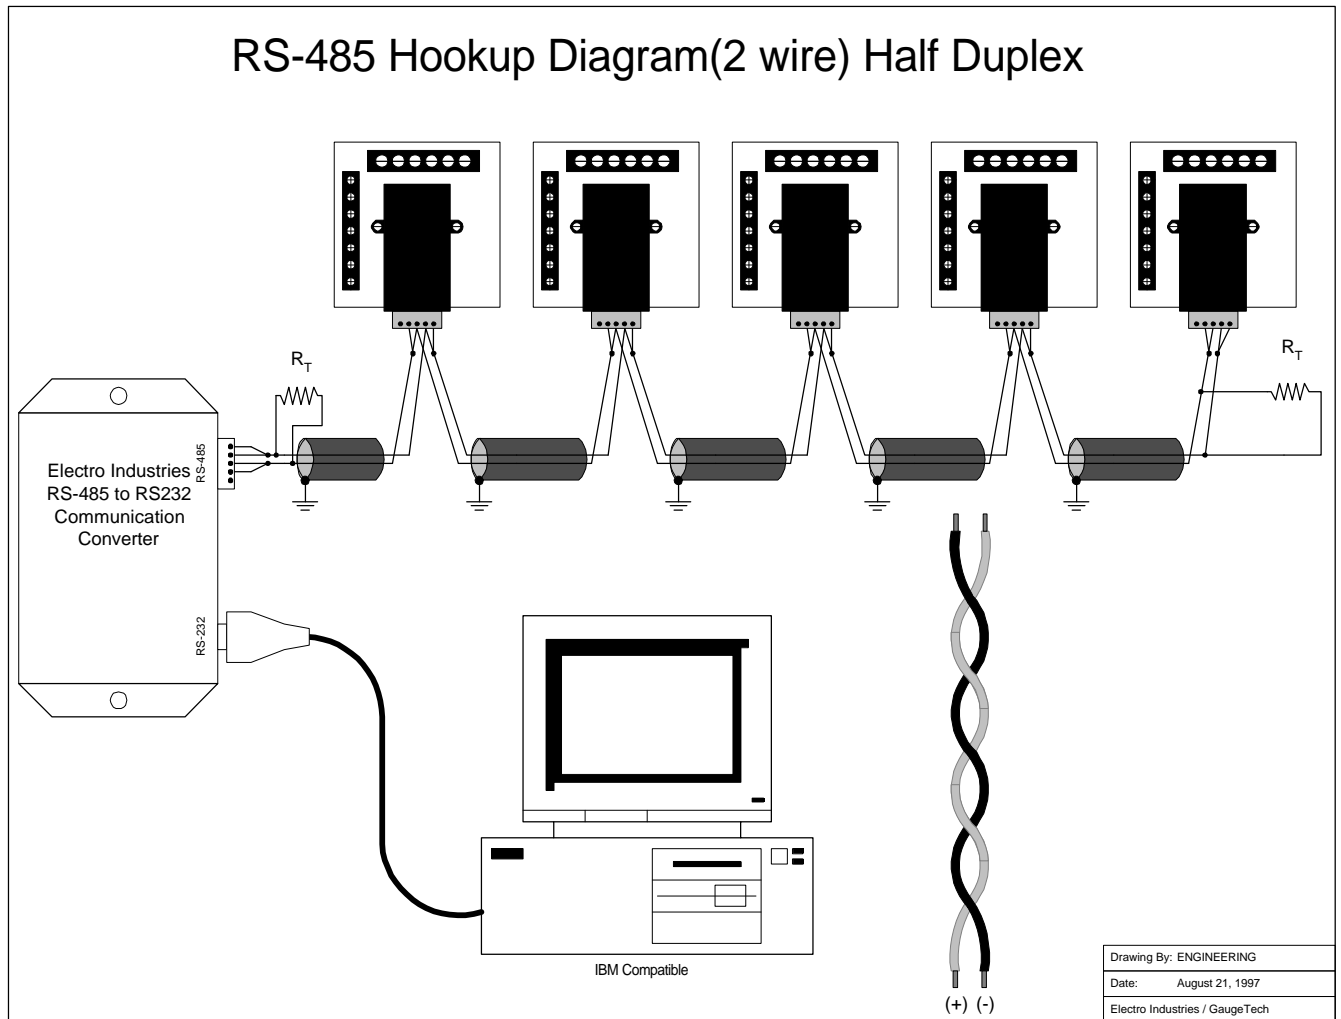

Figure 3.2 2Wire RS-485 Communication Connection Installation Half Duplex
- When only 2 wires are used (on the RS-485), the link can include up to 30 instruments, (Figure 3.2).